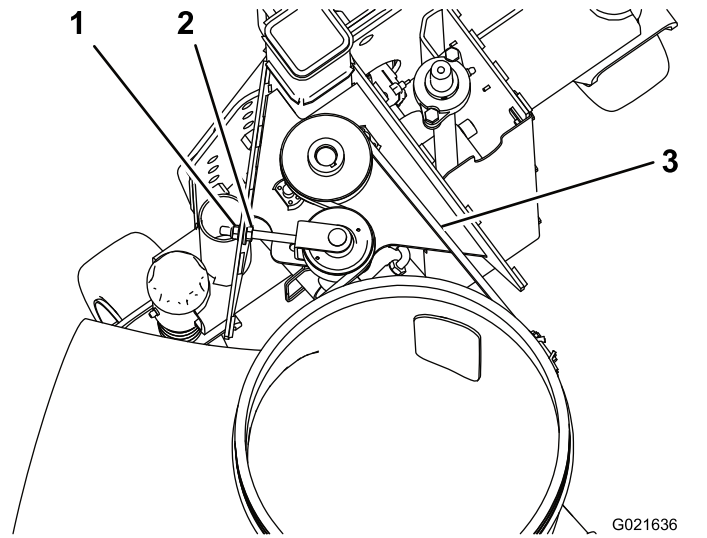

Figure 27
1. Press the belt, at the center of the longest span, with 30 N·m (22 lb) of force (Figure 27).
3. Loosen the hex nut and tighten the flange nut to increase the belt tension (Figure 27).